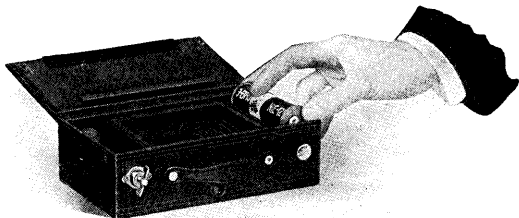

FIG. 3
3. Drop the film cartridge into the recess as shown in Fig. 3.